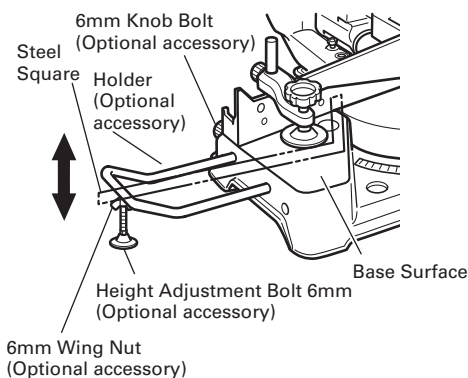

Fig. 13
- (1) As indicated in Fig. 13, use a steel square for aligning the upper edge of the holders with the base surface. Loosen the 6mm wing nut. Turn a height adjustment bolt 6mm, and adjust the height of the holder.
- (2) Loosen the 6mm wing nut. Turn a height adjustment bolt 6mm, and adjust the height of the Holder. After aligning, secure the holders with the 6mm knob bolts (Optional accessory).